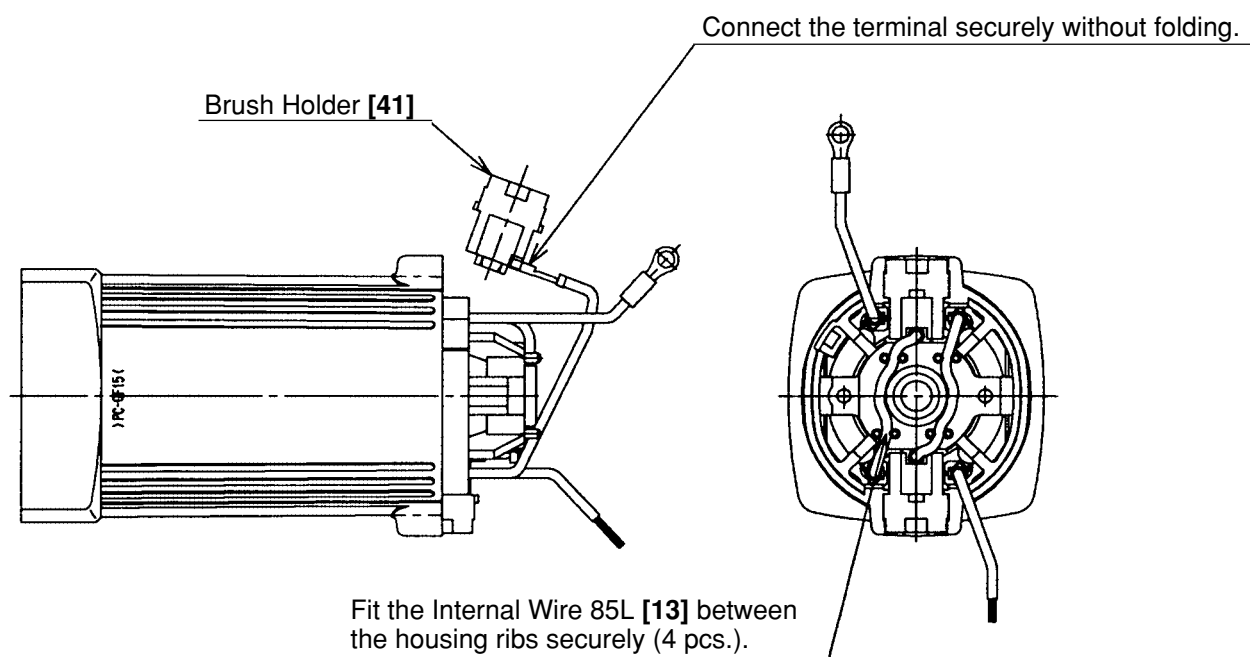

Fig. 7
- (6) Connect the Internal Wires [12], [13] and [14] to the Stator [11] correctly as shown in Fig. 7.